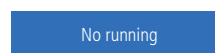

Fig. 7. Standby mode.
- Standby mode when a program has been selected but not activated (Fig. 7).